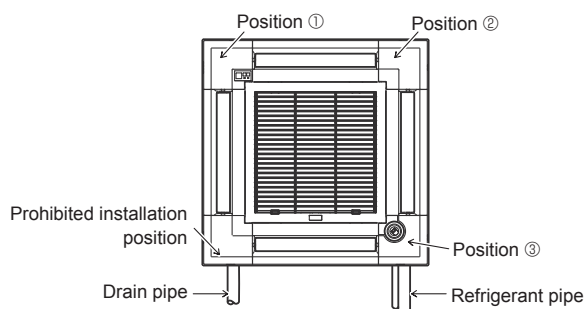

Fig. 7-11
The signal receiver corner panel can not be installed on the drain pipe side for the main unit. (Refer to Fig. 7-11)
- The i-see Sensor corner panel should be fixed onto the grille ① with screw ③.
- * If the position of the i-see Sensor was changed from default position (position ③) to the other position, change the function settings. (Fig. 7-11)
- The i-see Sensor corner panel can not be installed on the drain pipe side for the main unit. (Refer to Fig. 7-11)